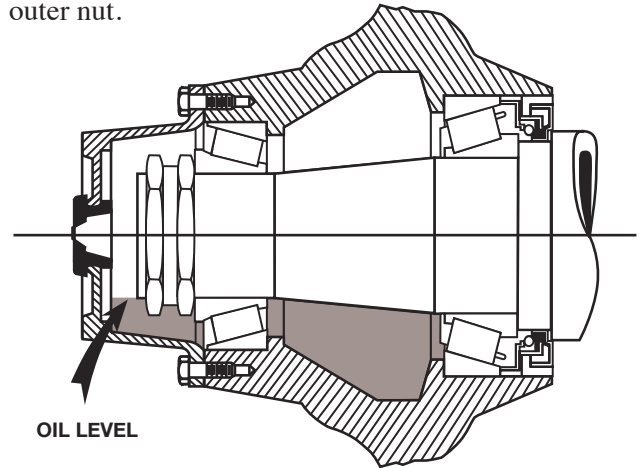

Figure 20. Checking Oil Level in Hub
10. Install the hub cap gasket and hub cap. Fill the hub to the "Full" line on the hub cap window (see Figure 9 & Figure 20).